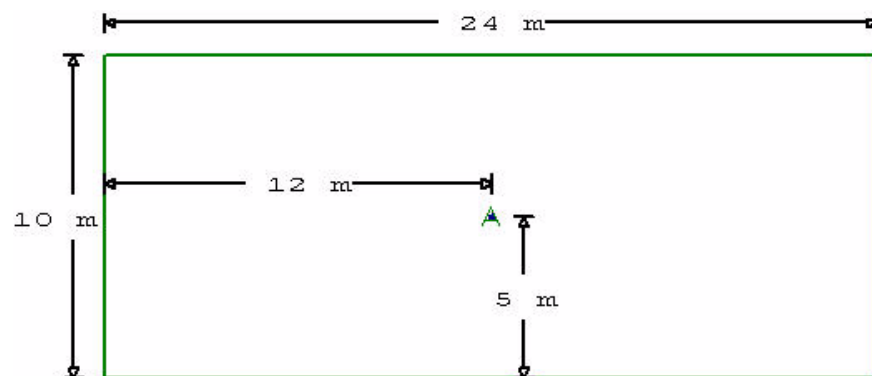

Figure 8-1 Roof outline with drain
Before worrying about the insulation layout, you'll open a new project and draw the roof outline. This project contains a simple roof section with a single drain at the centre and a low area on the drain. The roof will look like Figure 8-1.
2. Add a roof section with the dimensions of the roof in Figure 8-1.
3. Add a drain in the centre of the roof, as indicated in Figure 8-1.
Currently the top and bottom walls are 5 metres from the low area, and the left and right walls are 12 metres from the low area (see Figure 8-1 on page 92).